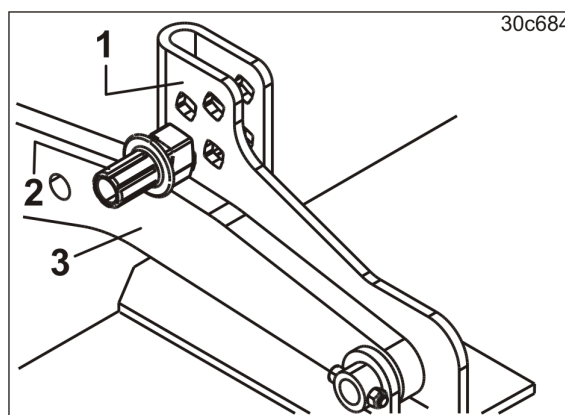
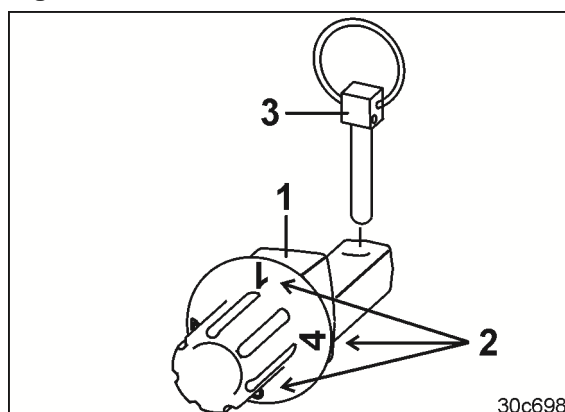

Fig. 49
Fig. 50
The adjuster segment (Fig. 49/1) is used to adjust the working depth.
The working depth is adjusted by relocating the depth setting pin (Fig. 49/2) in the adjuster segment.
The various settings have an effect on a roller carrying arm (Fig. 49/3) below the depth setting pin.
The edges (Fig. 50/1) of the depth setting pins have different distances and are labelled with the numbers 1 to 4 (Fig. 50/2).
Always secure the depth setting pins using a lynch pin (Fig. 50/3).
- The higher the depth setting pin (Fig. 49/2) is located in the adjuster segment.
- The larger the number (Fig. 50/2) present at the carrying arm (Fig. 49/3).